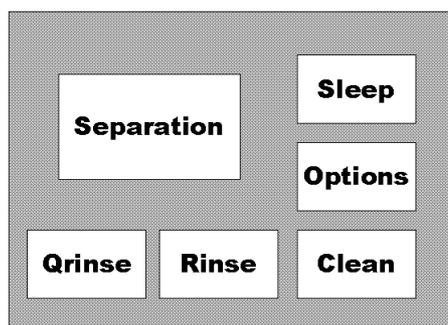
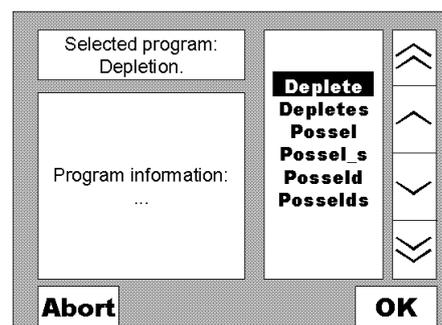

Fig.1 Main menu.
Fig.2 Separation menu.
4. After a while, the screen should display the main menu (fig.1). You can make your selection by touching the screen. In the first run of the day it is important to run **Clean**. The autoMACS will run ethanol through the tubes, columns and ports, followed by rinsing solution and leaves everything in running buffer, ready for sorting. It takes ~5min.
6. Choose **Separation** from the main menu (fig.1). Another menu is displayed (fig.2) allowing the selection of the separation program more suitable for your needs (see table 1). You can select the desired program by touching the arrows on the right. When that program is highlighted you can check on the boxes on the left side of the screen the characteristics of the program, if it is the right one you can press **OK** and the separation will proceed automatically.
7. The positive fraction of cells (the ones with beads attached) are recovered from the “pos1” port if a separation through a single column was selected; or from “pos2” if you decided to pass the cells through two columns (better purity, lower yield). The negative fraction (cells without beads) is always recovered from the “neg” port.
8. When the sort is completed the main menu is displayed again (fig.1). Place again the 50ml Falcon tubes in the collection ports and a 15 ml tube in the uptake port. If you have more samples to sort, you should run **Rinse** between the sorts. The Rinse program runs rinsing buffer through the system to remove any cells left behind. If there is another user in the booking sheet for the same day, run **Clean**. This program passes ethanol through all the tubes, before filling the system with running buffer. If you are the last user of the day select **Sleep**. This program washes everything with ethanol, and leaves all the tubes and columns filled with it. You just have to switch off the main switch when the screen prompts you to do so. Do not forget to empty the “waste” bottle and to store your buffers!